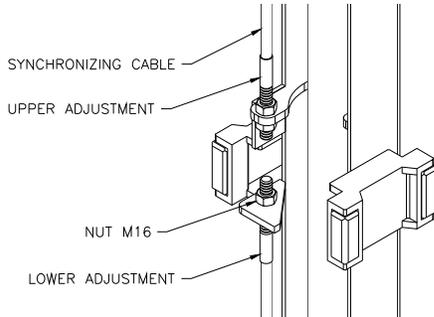

Fig. 6 – Synchronizing Cables
- 19) Attach one end of synchronizing cable to carriage. See **Fig 6** for proper attachment.
- 20) Route cable up and over sheave in overhead. Follow across to other sheave on opposite column. Route down through carriage to sheave in bottom of column. Route under sheave and up to cable attachment. Use **Fig 6** for proper attachment.